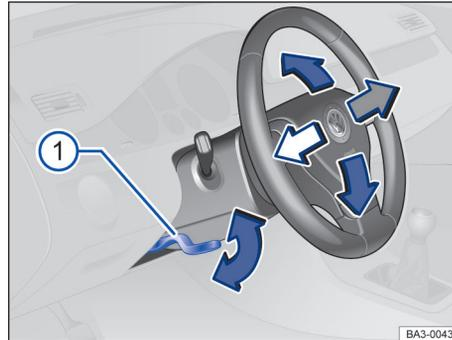

Fig. 60 Below and to the left of the steering wheel next to the steering column trim: steering wheel position adjustment lever.
- Push the lever down, holding it by the handle → Fig. 60 .